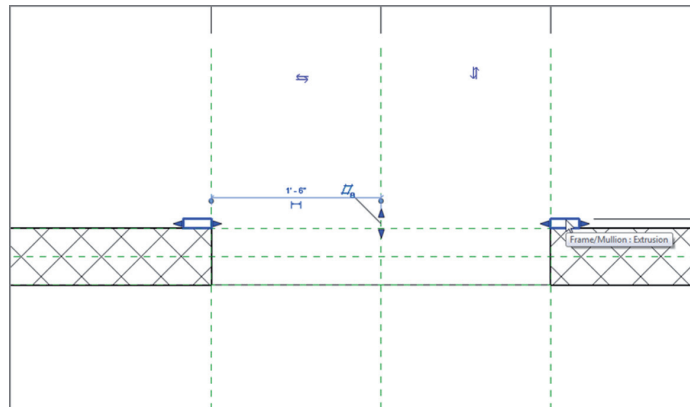

FIGURE BC2.13: Deleting the jambs from either side of the door
3. Quite a bit of work has been done for you. This is great, but you don't need all the items in the template. Select the door jambs, as shown in Figure BC2.13, and delete them from either side of the door.